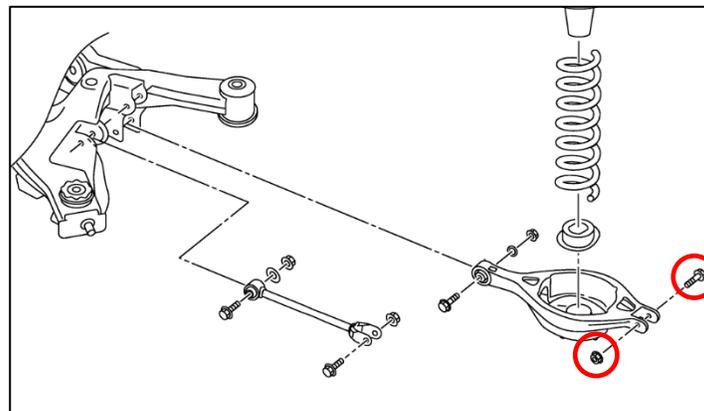

Figure 10
6. Remove the bolt and nut securing the Toe Arm to the Knuckle. Circled below in *Figure 10*.